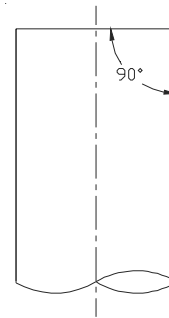

Fig. 1
1. Cut pipe so that the height of the finished drain is at or just below the height of the finished floor. (See Zurn Engineering Handbook or EZ1™ Submittal for dimensional heights). Ensure pipe is cut square and free of burrs or debris. See Fig. 1